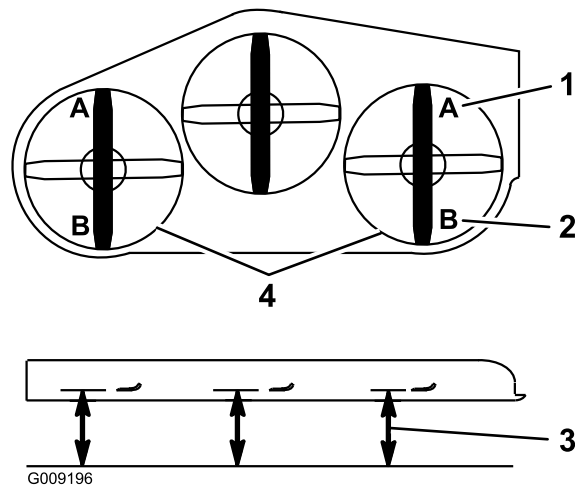

Figure 90
9. On both sides of the deck, measure from the level surface to the front tip of the blade (Position A); refer to Figure 90.
15. On both sides of the deck, measure from the level surface to the back tip of the blade (Position B). The measurement should read 8.3 cm (3-1/4 inches); refer to Figure 90.